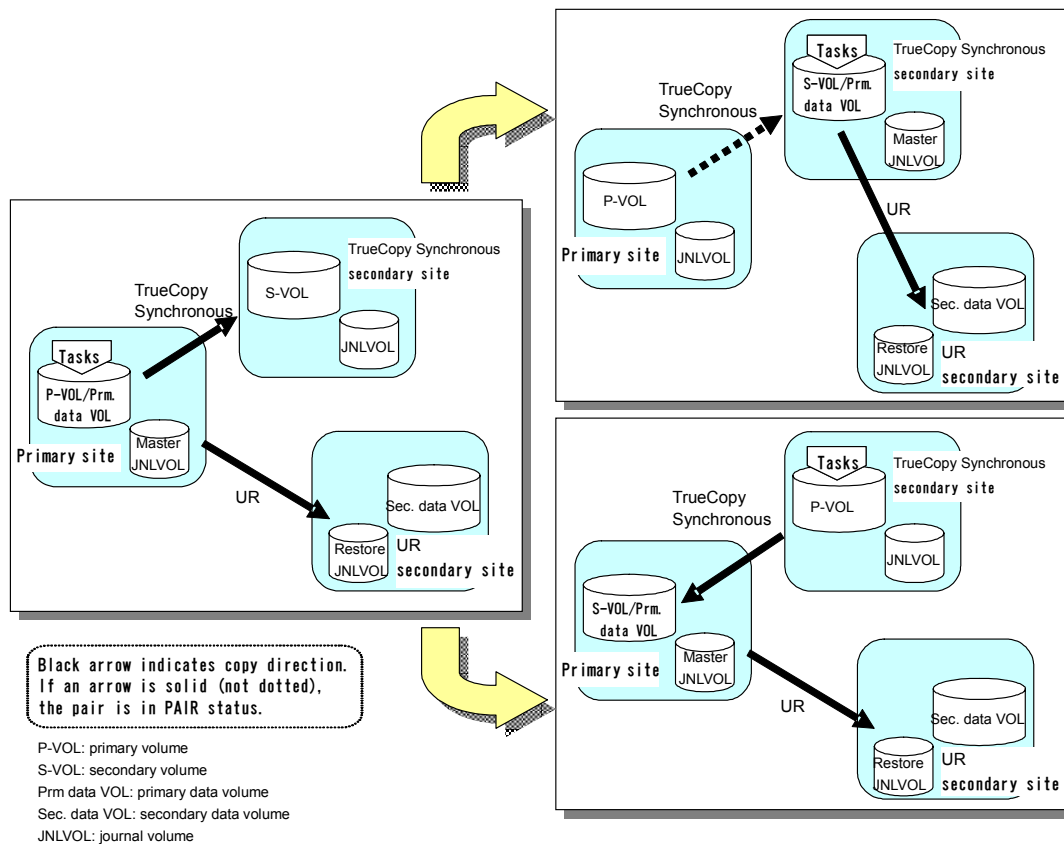

Figure 9-1 Recovery from Disaster in the Primary Site
- a. If the primary/secondary relationship of the TrueCopy Synchronous pair is not reversed (that is, the copy direction is not reversed as illustrated in the upper-right picture in Figure 9-1), use CCI to create a UR pair. The primary data volume of the UR pair must be the TrueCopy Synchronous secondary volume. The secondary data volume of the UR pair must be the secondary data volume in the UR secondary site.
- b. If the primary/secondary relationship of the TrueCopy Synchronous pair is reversed (that is, the copy direction is reversed as illustrated in the lower-right picture in Figure 9-1), recreate the UR pair that were released at step 1 of this procedure. When you finish recreating the UR pair, the system configuration changes from 3DC multi-target configuration to 3DC cascading configuration, and the former TrueCopy Synchronous secondary volume changes to the primary volume.